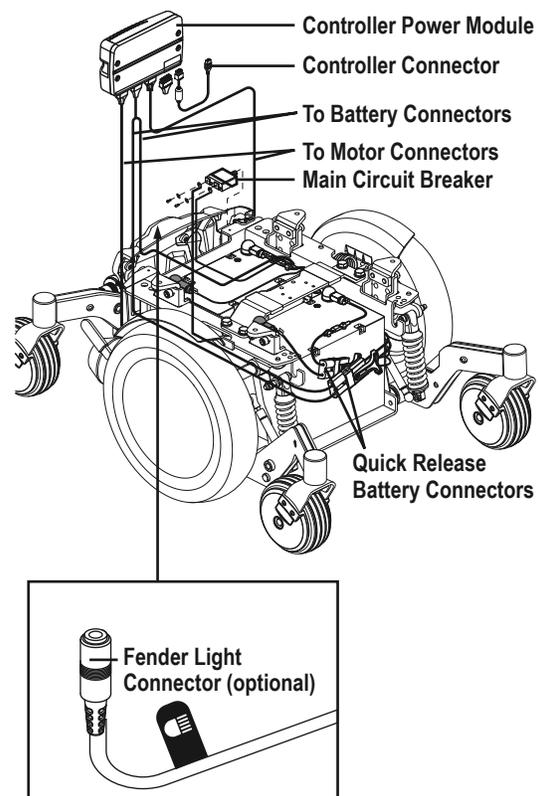

Figure 1. Electrical Components
Your power chair has two main assemblies: the seat assembly and the power base assembly. Typically, the seat assembly includes the armrests, seatback, and seat base. The power base assembly includes two motor/brake assemblies, two drive wheels, four caster wheels, two batteries, and wiring harnesses. **See Q6 Edge 2.0/3 (page 4) and figure 1.**
The electrical components consist of the controller assembly, the batteries, and the motors. The batteries, motors, and controller power module (if equipped) are located on the power base assembly. The controller is located on the seat assembly. Connectivity between the controller and the motors, batteries, and the battery charger is provided by one or more wiring harnesses. **See figure 1.**
5. Plug the controller connector into the rear of the power base. See figure 1.